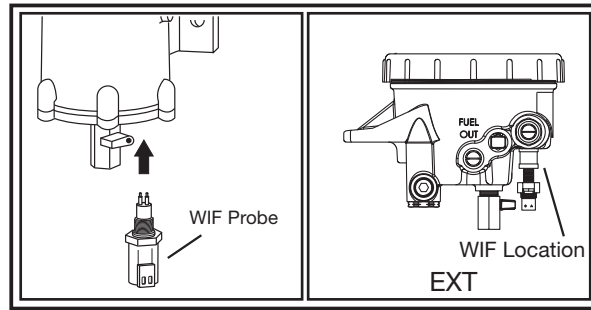

Figure 2 - WIF Probe Installation
Step 1 - Install the WIF Probe (391194 S) into the bottom of the Diesel Pro (see Figure 2). Torque to 20-25 in-lbs (2.3-2.8 N-m).